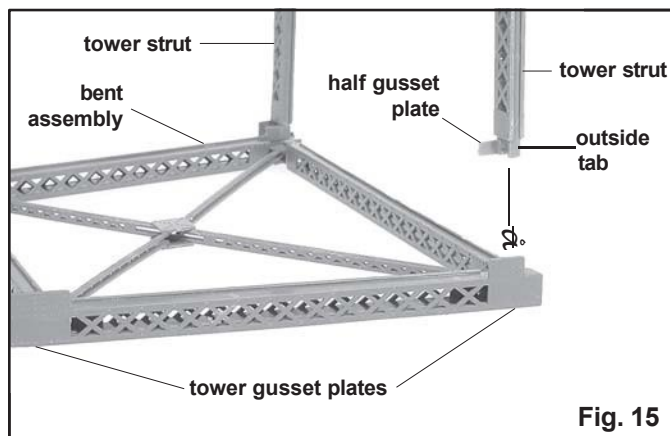

Fig. 15
a. Lay a bent assembly flat on the work surface with the gusset plate extensions up. Holding a tower strut vertically, place its end on the bent assembly, with its gusset plate to the inside. See fig. 15. The two tower struts with half gusset plates are used at the bottom of the bent with the half gusset plates toward the top of the bent assembly.
c. Put cement only on the outside tab of the tower strut and press this tab against the inside of the tower gusset plate with tweezers. See fig. 15.